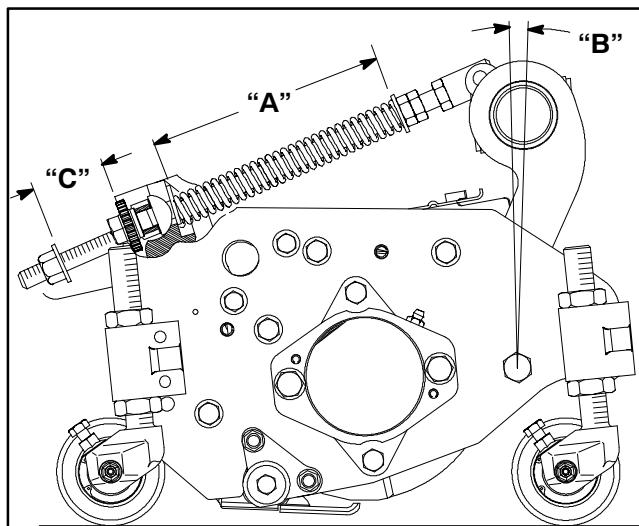

Figure 10
The Turf Compensation Spring (Fig. 10), connecting carrier frame to cutting unit, controls the amount of fore-aft rotation available, as well as the amount of ground clearance in transport and turn around.
1. Tighten lock nut on rear of spring rod until the gap (C) between rear of spring bracket and front of washer is 1" (26 mm) (Fig. 10).
2. Tighten hex nuts on front end of spring rod until the compressed length (A) of spring is 8" (203 mm) (Fig. 10).
NOTE: When cutting rough or undulating turf, increase compressed length (A) of spring to 8-1/2" (216 mm) and gap (C) between rear of spring bracket and front of washer to 1-1/2" (39 mm) (Fig. 10).